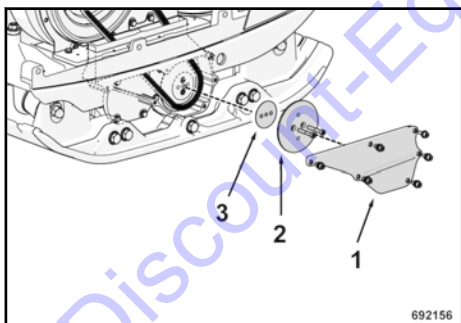

Fig. 68
Remove the safety cover (1) ↪ Fig. 68.